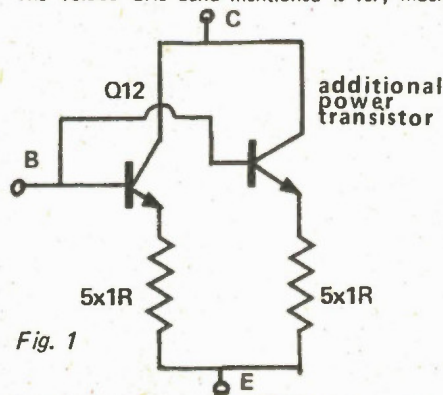

Fig. 1
*Referring to Fig. 1, you can see that collector and base leads are connected directly, and the emitter leads are joined through emitter resistors. The purpose of the emitter resistors is to compensate for differences in base-emitter voltage. This way, one transistor doesn't 'hog' all the current and burn out from thermal runaway. In this case, the emitter resistor is made up from 5 1R resistors in parallel. Mount the additional transistors on the same heatsink as the rest of the amplifier.*